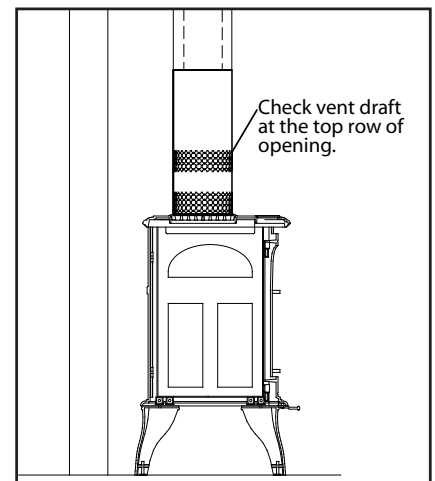

Figure 46: Draft test place.
4. After a minimum of 10 minutes operation, test the chimney draft with a smoke match at the top row of the pattern to confirm that there is adequate draft or 'pull' at the openings around the body of the Drafhoad Adaptor, as shown in Figure 46.